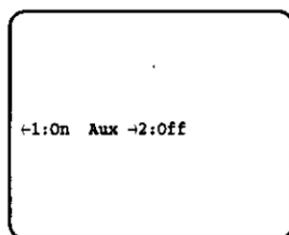

Fig. 13
1. Display the Aux Menu as shown in Fig. 13 by repeating the previous procedures.